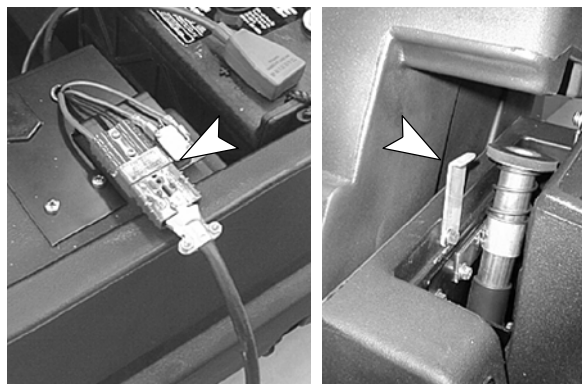

FIG. 19
5. With charger's power supply cord unplugged, connect battery charger into machine as shown. Flip up hood support stand and rest hood on stand to promote ventilation (Figure 19).